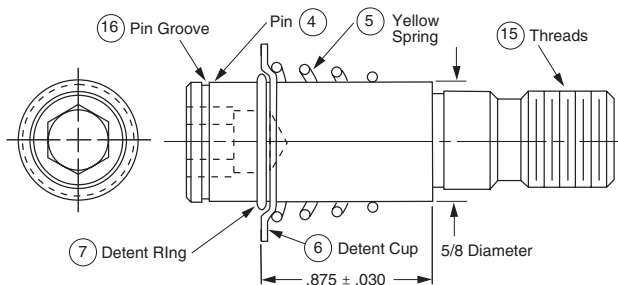

Figure 2
(See Figures 2, 3, 4, & 5).
Step 1: Each new detent ring (item 7) is assembled on each new pin (item 4) at the factory. Ensure that each detent ring is approximately 7/8 inch away from the shoulder of the pin. If it is not, slide the detent ring into position as shown in Figure 2.
Step 2: Assemble each new detent cup (item 6) with concave side towards the detent ring (item 7) and each new yellow spring (item 5) onto each new pin (item 4) as shown in Figure 2. Make sure the small end of the yellow spring is on the 5/8 inch diameter as shown in Figure 2.
Step 3: Following the manufacturer's instructions, apply Grade 242 Loctite to each of the new pin threads (item 15) and, using the hex key wrench, screw the four new pins (item 4) into the hub (item 2). Tighten each pin to 45-50 lb.ft. of torque using a torque wrench.
Step 7: Assemble each retainer ring in the pin groove (item 16) as shown in Figure 2.